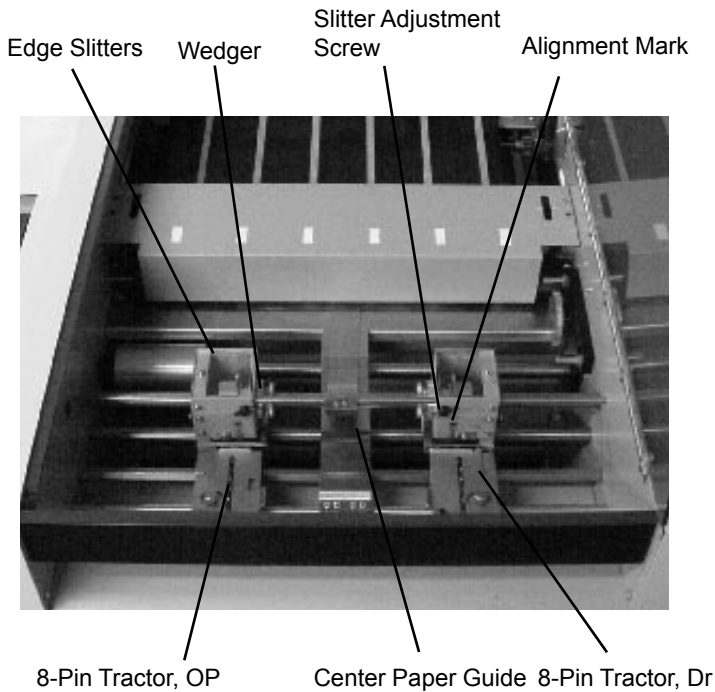

Fig 27
8. If using edge slitters, position alignment mark where you wish to slit. (Fig. 27)
9. If slitting, be sure that slitter blades are engaged. This is accomplished by rotating wedger in a counterclockwise direction as far as they will go without force. (Fig. 27)
10. Lock edge slitters in place by tightening thumbscrews clockwise. (Fig. 27)
Coarse adjustments are made by loosening the lock screws on the plate stops, then moving the stop (Fig. 26). The plate stop lines up with the scale marks along its front edge (not where the paper contacts the stop). Fine adjustments are made with the micro adjust knobs on the ends of the fold plates (Fig 27).